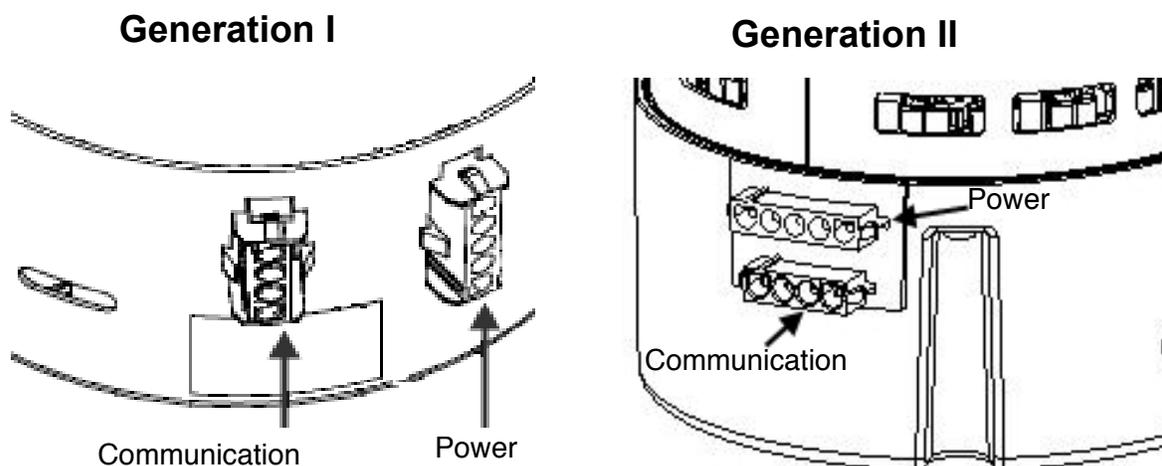
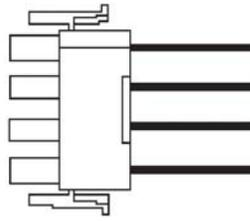

Figure 1
Figure 2
2. Disconnect the four wire communication cable from the control unit connector [Figure 1].
3. Connect the four wire connector of the UltraCheck-EZ® diagnostic tool [Figure 2] to the control unit communication connector [Figure 1].
- Reconnect the four wire communication connector to the control unit connector [Figure 1].
4. Disconnect power cord from connector on control unit. Inspect power cord for bent, damaged or recessed wires and terminals [Figure 1].
5. Disconnect four wire communication cable from connector on control unit. Inspect cable for bent, damaged or recessed wires and terminals [Figure 1].